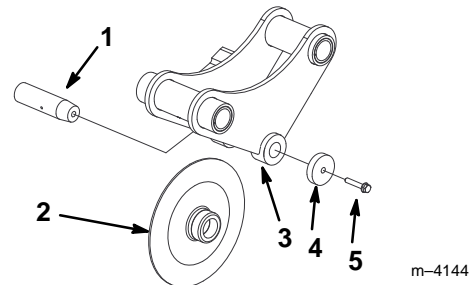

Figure 4
2. Completely remove the couler pin screw, washer, and couler pin (Fig. 4).
3. Put the couler into the couler bracket (Fig. 4).
4. Slide the couler pin through the bracket and couler and secure it with the couler pin screw and washer (Fig. 4).